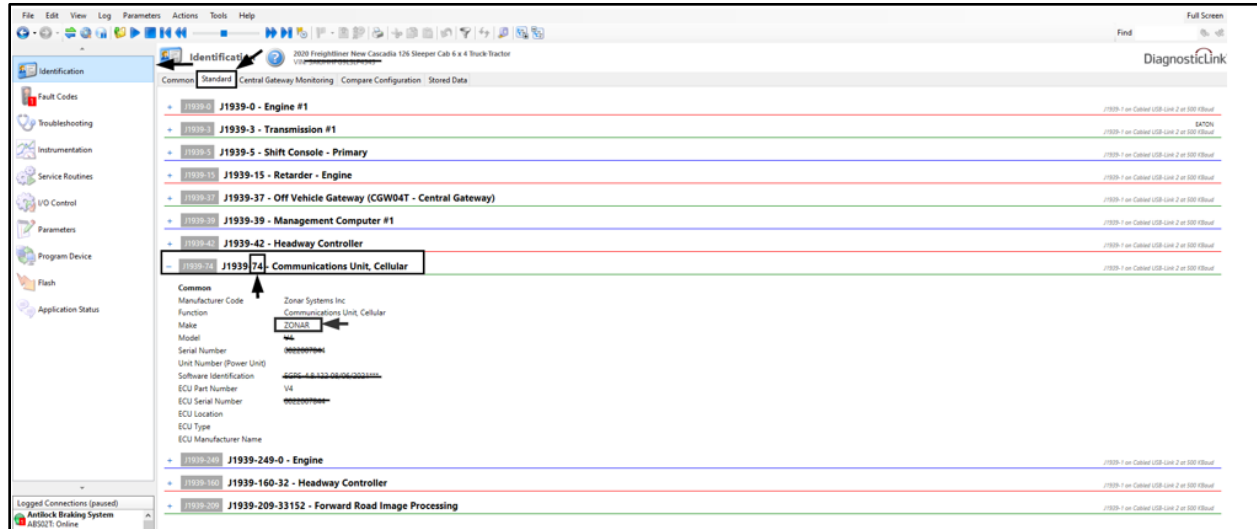

Fig. 2, 'Standards' Tab Monitoring SA 74
3. Connect to the vehicle, and select the 'Standards' tab from the 'Identification' icon, as shown in **Fig 2**. Note which added device shows under SA 74. In this example, a Zonar unit was added. If no device is roll calling under SA 74 then go to **step 8**. If a device is showing under SA 74, go to **step 4**.
4. In many cases, third-party telematics can use prewire options supplied with the vehicle. Isolating the third-party telematics can be achieved by monitoring the device roll calling on SA 74 listed on the 'Standards' tab, shown in **Fig. 2**, while trying to disable it. Once the device communication or power supply is disabled, the device will no longer roll call. This eliminates any conflicts with the CTP01T ECU, thus allowing CTP01T to roll call on the common tab. The options below are provided to help disable customer added third-party telematics, so that the CTP01T can be properly accessed.